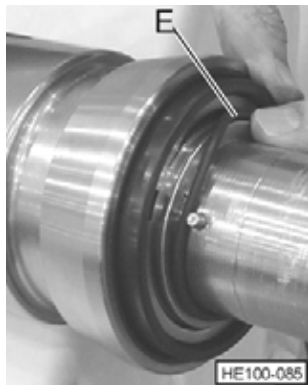

Figure 57 - Install Keeper O-ring
- Install "keeper" O-ring (See Figure 57, Item E) on shaft to keep rotating parts assembled.